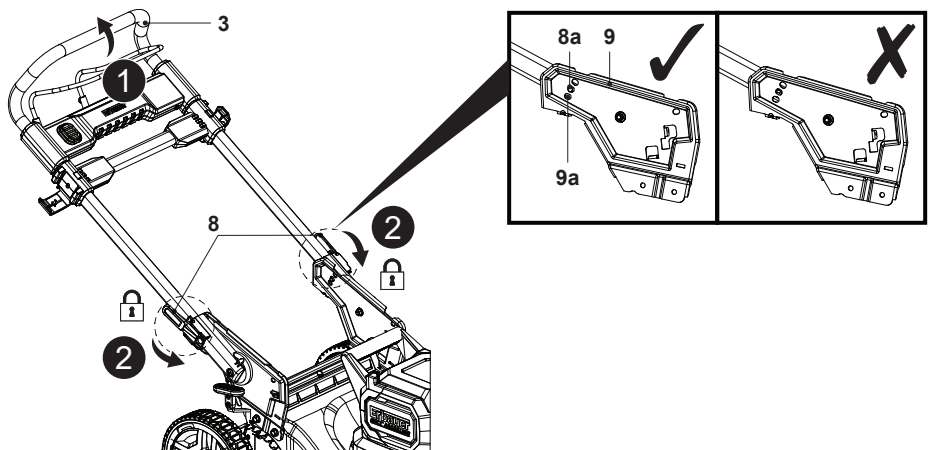

Fig. 2
- Grasp the grip handle (3) and keep rotating the handle assembly until the lock pin (8a) of the lock lever (8) automatically engaged in one of the holes (9a) of the handle support (9), depended on the need of handle height; Rotate the two lock levers (8) clockwise to secure the assembly (Fig. 2, steps 1, 2).